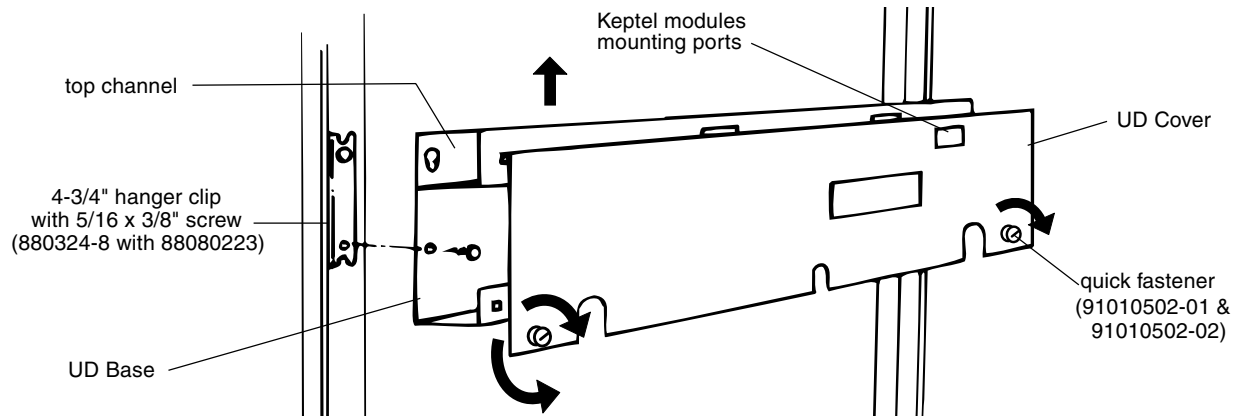

Figure 1
1. At designated mounting location, install hanger clips on left and right sides of frame. Make sure clips are firmly seated. Install a 5/16 x 3/8" phillips screw into top hole of each hanger clip, leaving a 3/16" gap between the screw and clip. (Figure 1)
3. Align top of keyhole slots on UD8 ends with the hanger clip screws. Slide down over screws to engage. Install two additional screws in lower holes. Securely tighten all screws. (Figure 1)